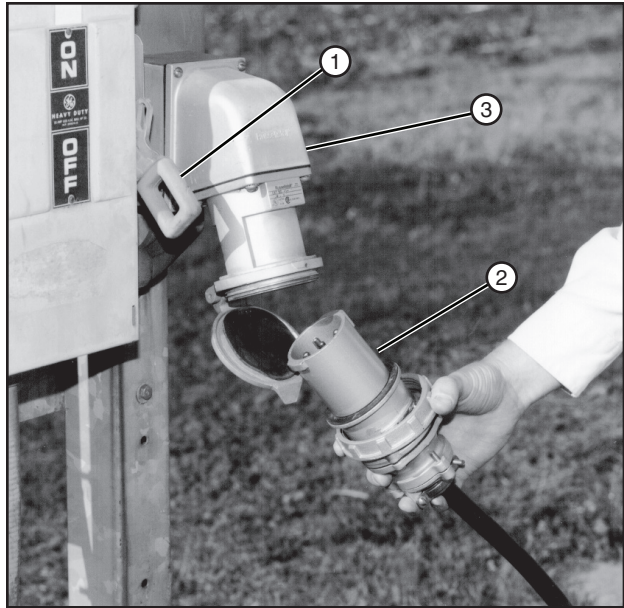

Figure 60-1 1. Service Disconnect-OFF
5. With the service disconnect in the OFF position, unplug the power plug from the receptacle. See Figure 60-1.